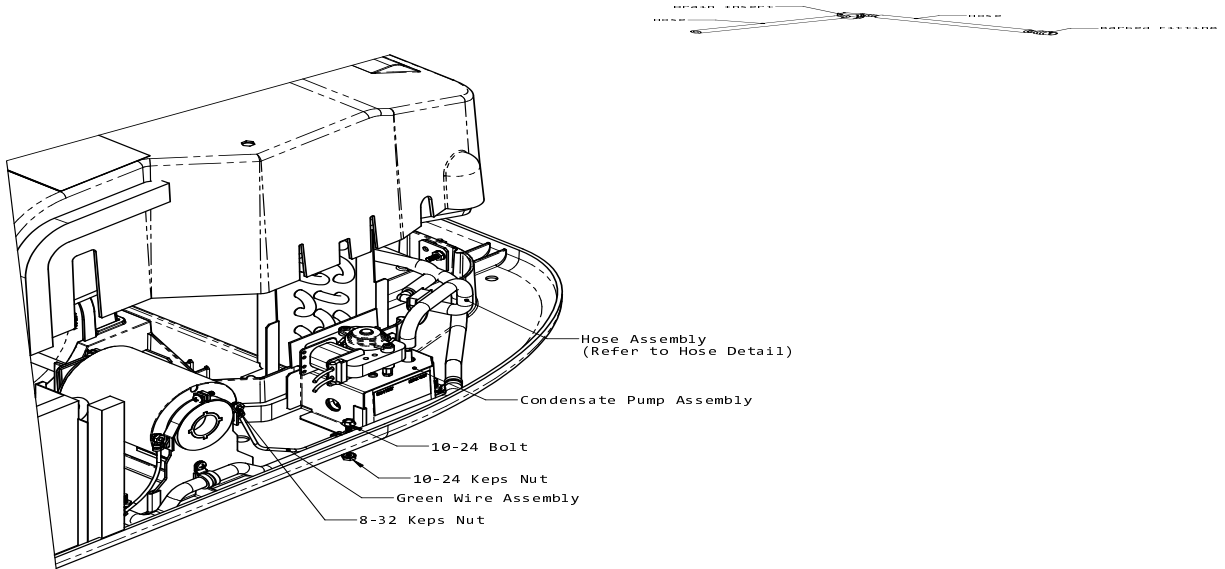

FIGURE 1
5. If you intend to connect the condensate hose through into the unit return air section and connect to a hose routed through the roof and side wall to deposit the condensate onto the ground, you will now remove the evaporator cover which is held by four (4) locknuts; a 3/8" hex nut driver or deep well socket may be used for this. Figure 1 shows the loosened evaporator cover raised to allow access to the return air section. Cut out the aluminum tape found on the vertical wall of the return air section. With the tape removed, you will find a U-shaped depression formed in the short vertical wall. The drain insert (See Figure 1) will fit into the depression to create a continuous flat surface across the short wall. Now you may connect the large 1/2" barbed adaptor to the 1/2" dia. drain hose (provided by installer) which will drain to the ground. Reinstall the evaporator cover at this time.
8. If there is no bracket (the most usual case), remove the strain relief clamp, drill a 7/32" dia. hole at the location shown in Figure 1 as 10-24 bolt. TAKE CARE that the drill does not carry through to the roof and create a hole in the roof.
11. Insert the kit provided 10-24 bolt downward through the bracket, provided green grounding wire and 7/32" basepan hole previously drilled. Engage the provided 10-24 lock nut from below the basepan. Tighten the bolt with a 5/16" hex driver. The lock nut will snug up to the pan. The added green grounding loose end will connect to the blower motor bolt using the supplied 8-32 keps nut (See Figure 1).